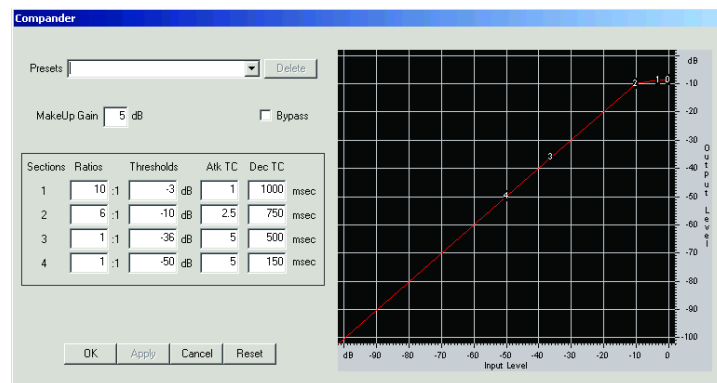

Figure 16.5: Volume Boost GUI with Drag Points
- Easy to use GUI, with drag points, see Figure 16.5